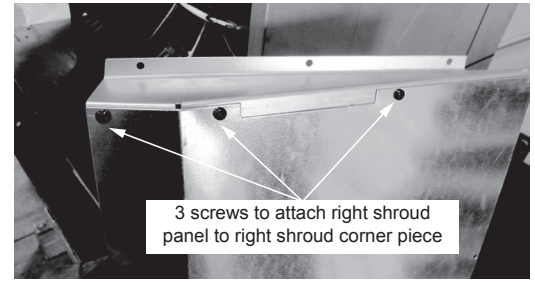

Figure 21.5
8. Assemble the right shroud panel corner and the right shroud panel using 3 screws (**Figure 21.5**).
**Parts need from the kit:** 1 piece of flex hose, 2 hose clamps, trim ring, and 1 termination cap assembly (See Figure 21.5) and 8 screws.